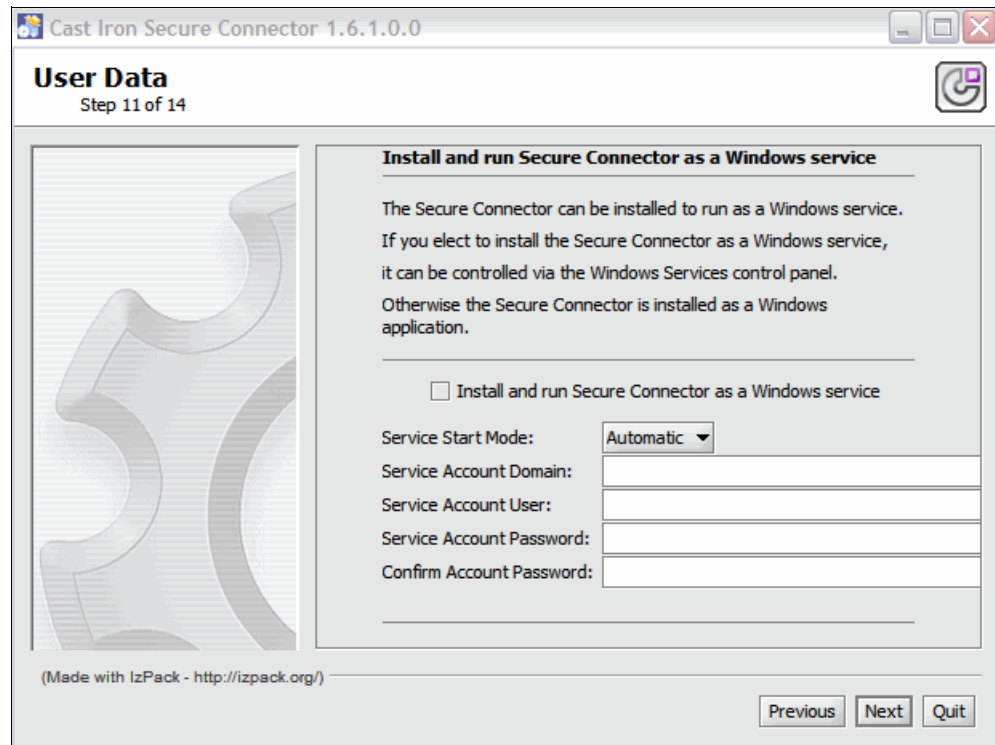

Figure 2-44 Cast Iron Secure Connector installation Windows service configuration
13. If you want to run the Secure Connector as a Windows service, specify the details, as shown in Figure 2-44. This scenario starts the service manually, so do not enable this option. Click **Next** to continue.